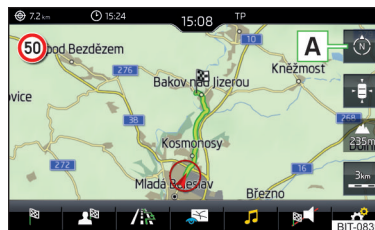

Fig. 241
- ▶ to **Change the map orientation** From the main menu *navigation* the functional surface  **A** » Fig. 241.